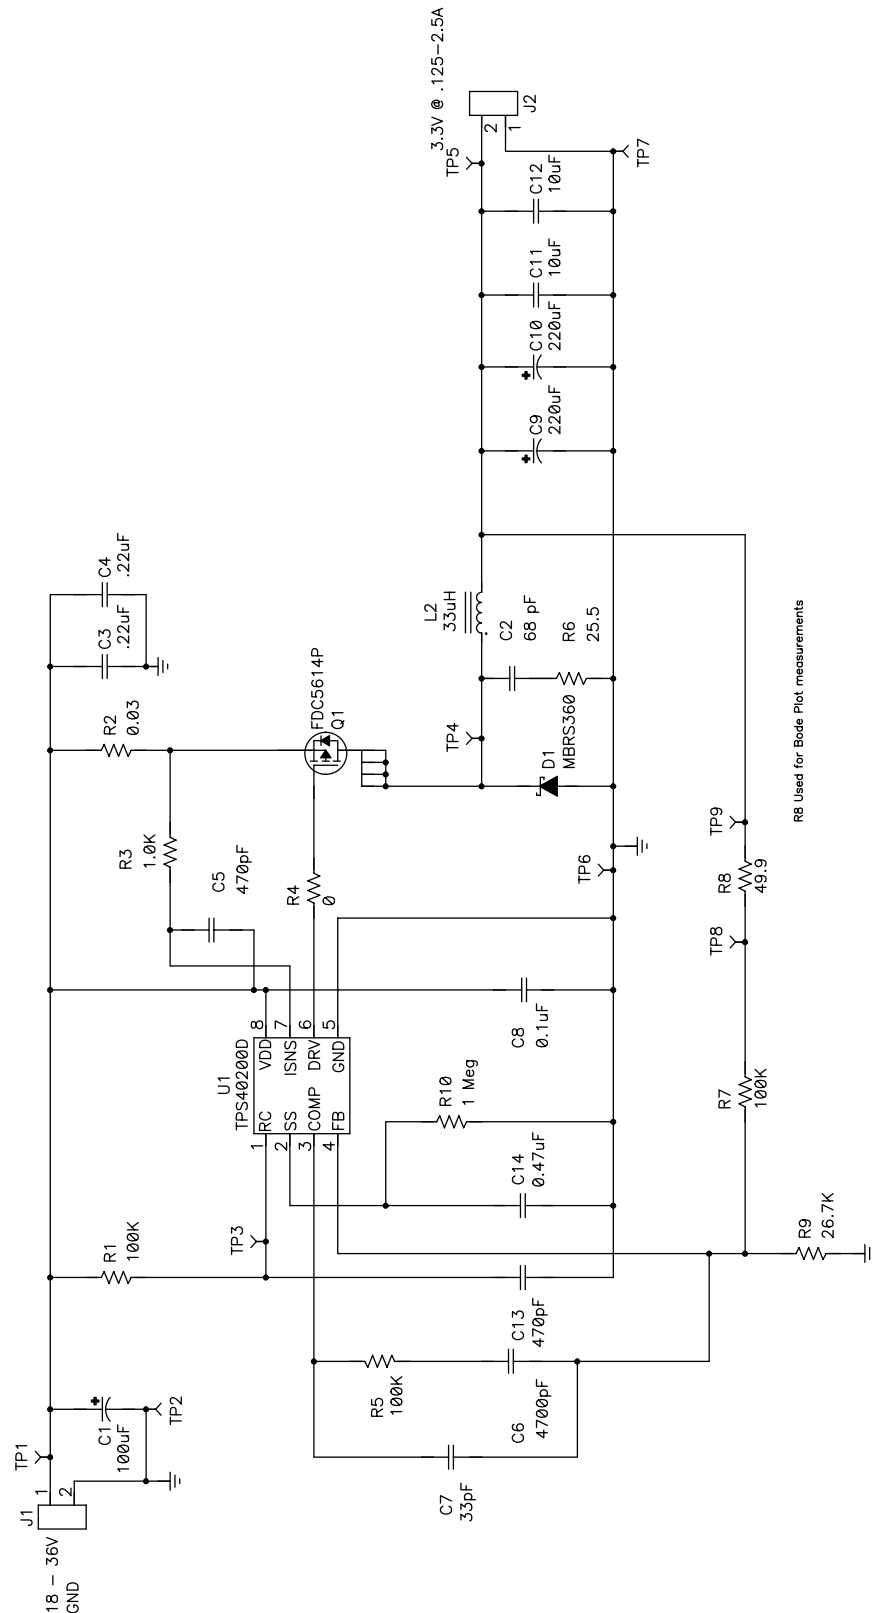

Figure 1. TPS40200EVM-002 Schematic
5. Connect LOAD1 to J2 as shown in Figure 1. Set LOAD1 to constant-current mode to sink 0 A dc before V_{IN} is applied.
Table 2 lists the EVM components as configured according to the schematic shown in Figure 1.